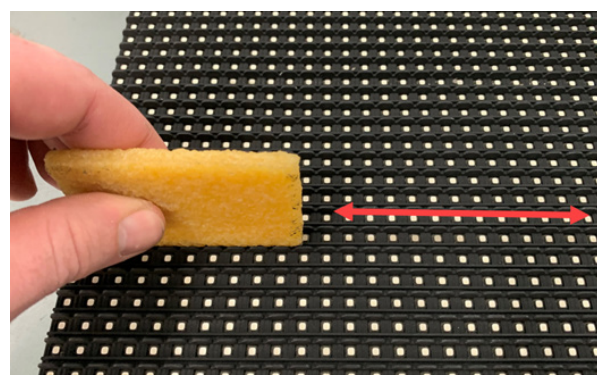

Figure 9: Modified adhesive eraser
2. Drag the rubber block across the top of a horizontal row of LEDs in long smooth strokes, as shown in **Figure 9**. Take care not to rip the LEDs off the module.